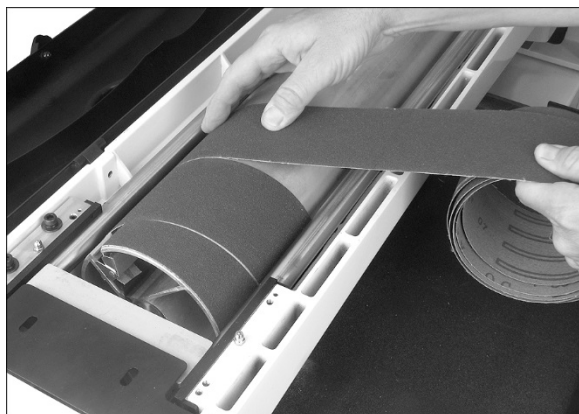

Figure 6-8
4. Continue wrapping abrasive in spiral fashion by rotating drum with one hand and guiding strip with the other. See Figure 6-8.